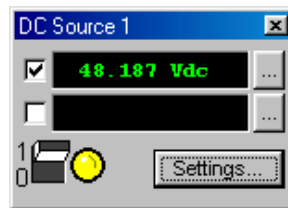

Figure 14 – The DC Source 1 dialog window
2. A value close to 48 Volts appears in the 1st Measurement output window, Figure 14. This shows the actual measured voltage that the hardware device labeled DC Source 1 is outputting